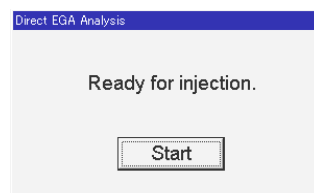
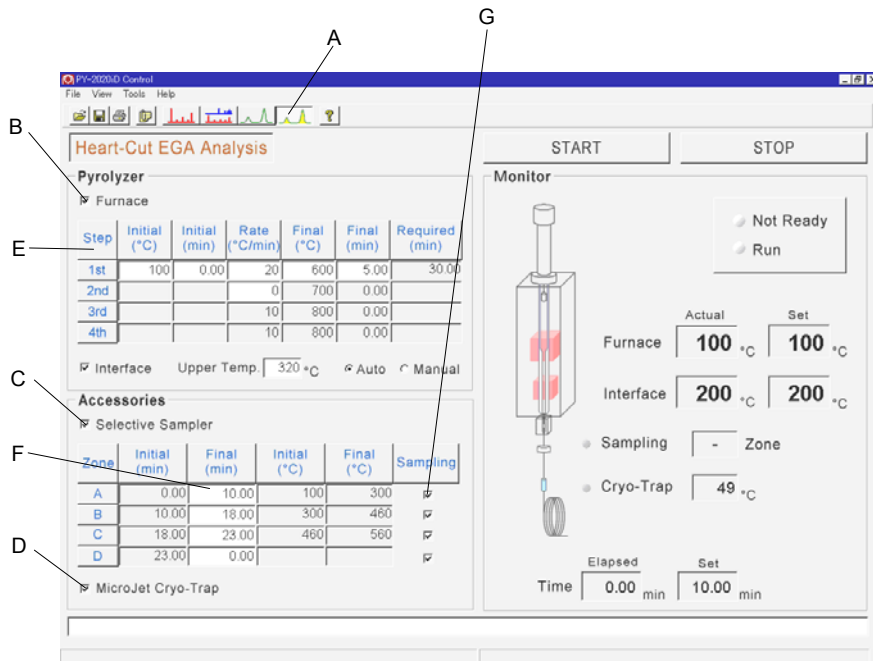

Fig. 4.16 Dialog Box Showing Start of Direct EGA Analysis
Fig. 4.18 Setting Heart-Cut EGA Analysis Mode
8. A dialog box shown in Fig. 4.16 will be displayed when GC, Pyrolyzer, interface and Selective Sampler are all ready. Immediately after dropping the sample cup into the Pyrolyzer furnace, click "START" button of the dialog box or hit "ENTER" key of the keyboard.
1. Choose "Tools" > "Analytical Modes" > "Heart-Cut EGA Analysis" or click the Heart-Cut EGA Analysis icon in the tool bar. A screen shown in Fig. 4.18 will be displayed.
2. Check the box of Furnace (B) to turn on the heater of Pyrolyzer.
3. Check the box of Selective Sampler (C) and Micro Jet CryoTrap (D), if auto control is desired.
5. Determine the end time of each zone from the EGA curve in Fig. 4.16, and type in the number in F. (Using an MS as a detector and looking at the mass chromatogram, elution temperatures of target components are easier to determine.) [Final (min) of each zone is automatically entered in Initial (min) of the previous zone. Initial of Zone A starts from 0.0min (fixed). Initial (°C) and Final (°C) are automatically calculated and displayed.]